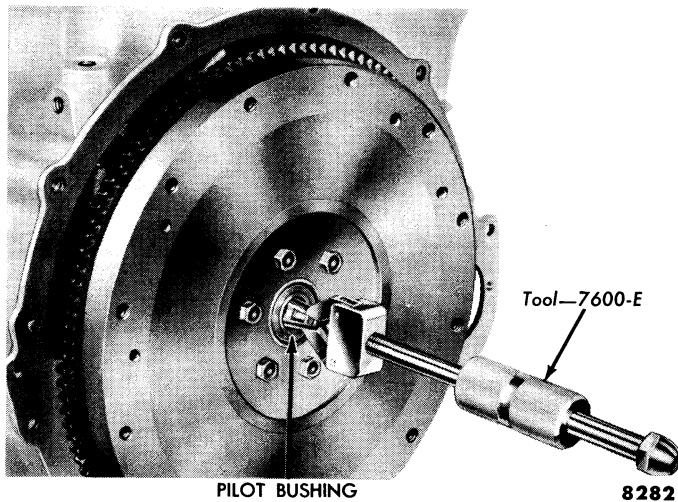

Fig. 5—Clutch Pilot Bushing Removal
(3) **PILOT BUSHING REPLACEMENT.** Install the tool shown in fig. 5, and remove the bushing from the flywheel.